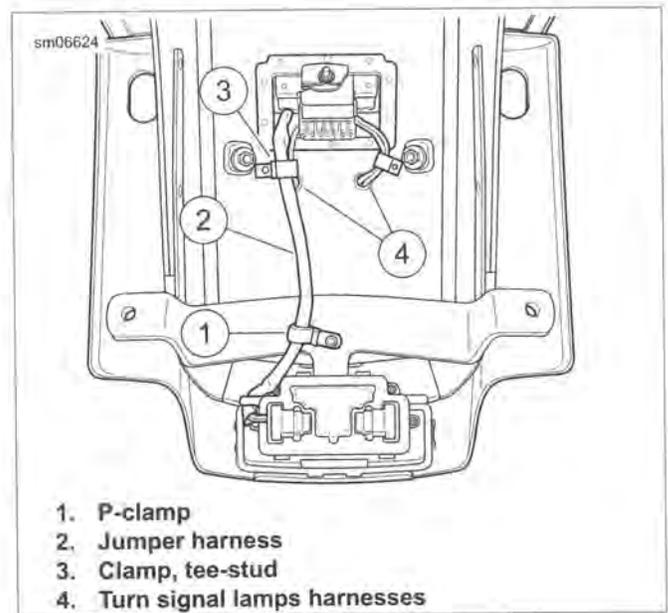

Figure 7-42. Tail Lamp Jumper Harness (models with tail lamp)
- b. See Figure 7-42. Release turn signal lamp harnesses (4) from cable clips.